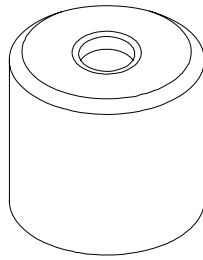

Figure 1 Armature Driver
21. The special tools shown in Figures 1 to 7 are required to perform the maintenance tasks detailed in this document.